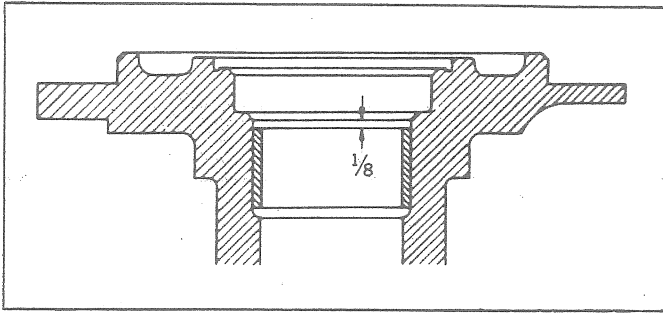

Fig. 44 - Correct Bushing Location
- Press new bushing into the spindle to a depth of 1/8 in. below chamfer of spindle. See Fig. 44.